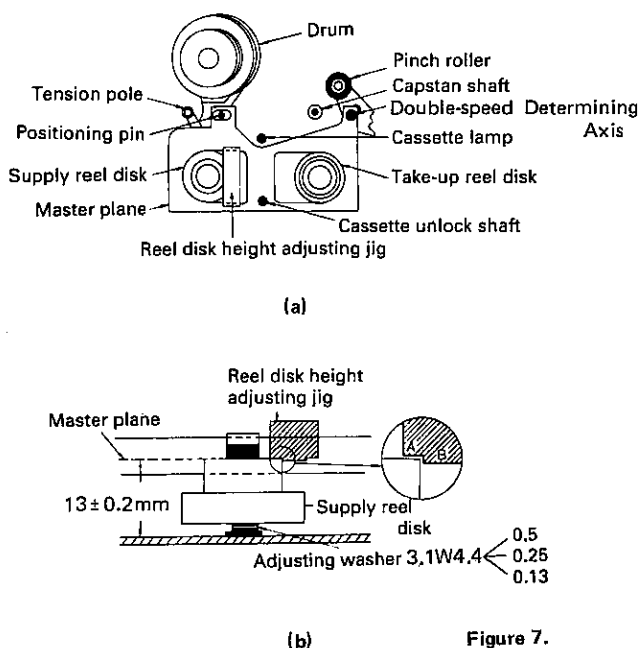

Figure 7.
1. Remove the cassette housing and set the master plane in the mechanism as shown in figure 7 (a), taking care not to touch the drum.